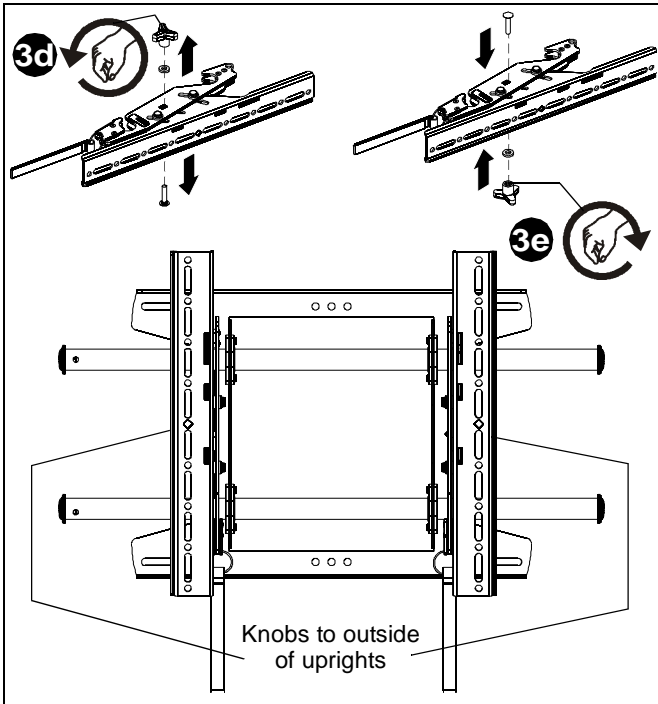

Figure 7
3. If necessary, the upright knobs may be switched to allow the uprights to be reversed. (See Figure 7)